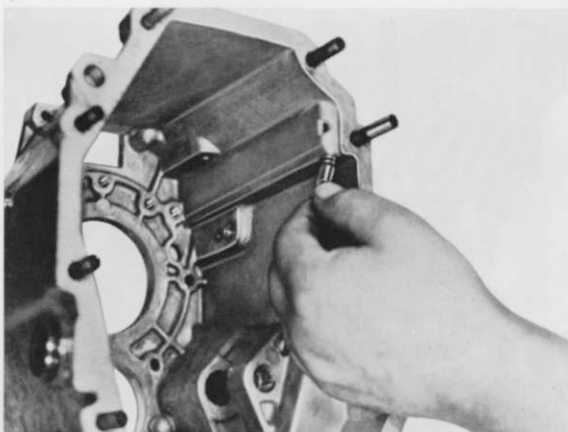

Fig. 38
1. Stick pressure spring (616) and detent plunger (617) into the 3 retaining bores of the gearbox front and rear with grease (Fig. 38).